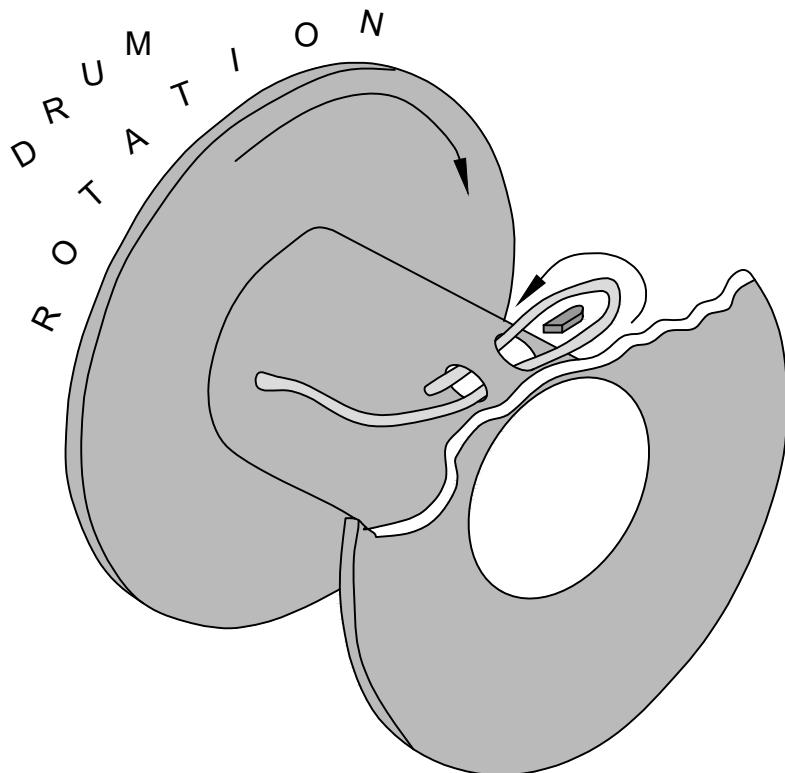

FIG. 1
STEP 3: INSERT WIRE ROPE END INTO POCKET OPENING ON WINCH, WRAP AROUND WEDGE, AND BACK THROUGH POCKET OPENING AS SHOWN IN FIGURE 1.